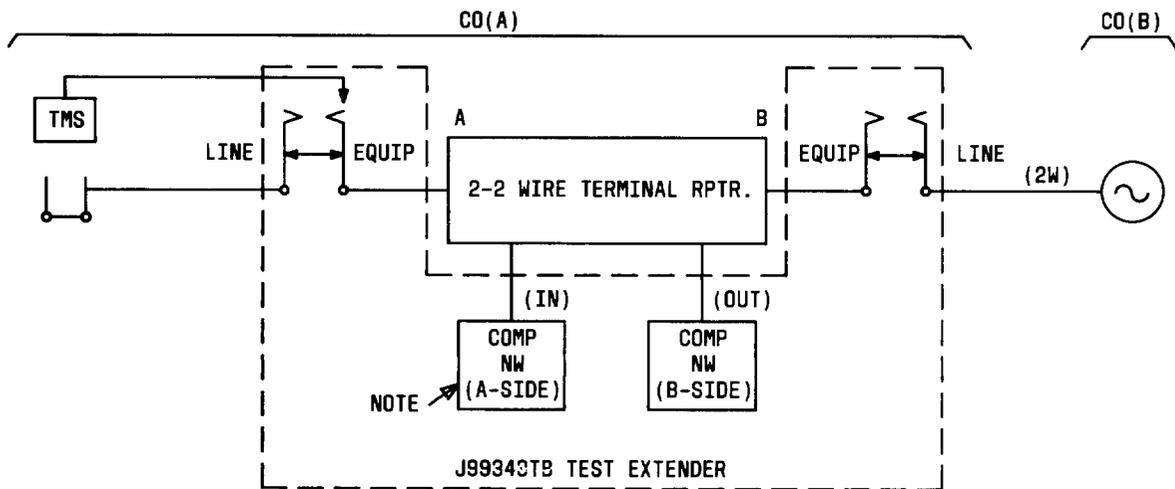
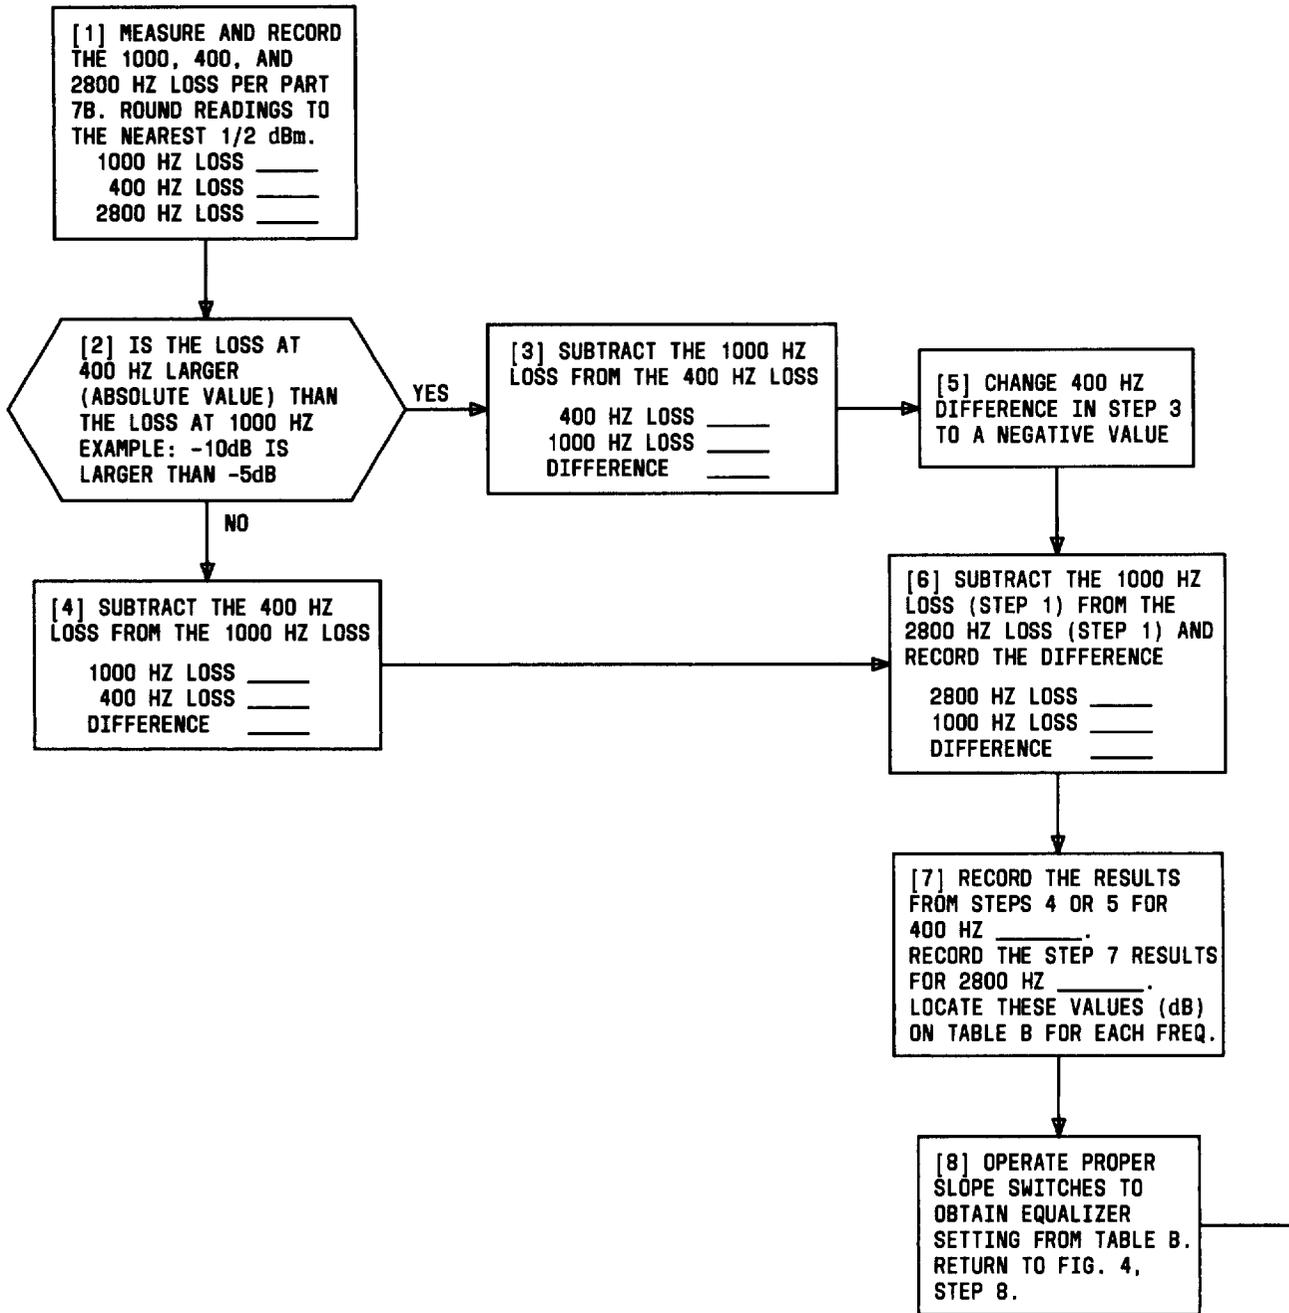

Fig. 7—Typical Test Configuration for Frequency Response Measurements
Fig. 8—Obtaining Equalizer Settings by Measurement
7.02 Cable loss information to calculate the equalizer settings is obtained from the frequency response measurement procedure. Figure 7 is a typical test configuration for obtaining the frequency response measurements and the procedure is given in Part 7B. Once the 400, 1000, and 2800 Hz cable loss has been determined, this information should be recorded in Step 1 of Fig. 8. The flowchart (Fig. 8) provides the procedure for determining the equalizer settings. An example calculation is also provided.
7.05 Figure 7 is the typical test configuration for making frequency response measurements on the J99343PB terminal repeaters when using the procedure of this part. The following equipment is required for these measurements:
Once the level at 400, 1000, and 2800 Hz has been obtained from the following procedure, they should be recorded in Step 1 of Fig. 8.
- 9 For calculation of equalizer settings, record the received levels for 400, 1000, and 2800 Hz in Step 1 of Fig. 8.
7.06 The following is an example of using the procedures in Fig. 8 for obtaining equalizer settings by measurements: